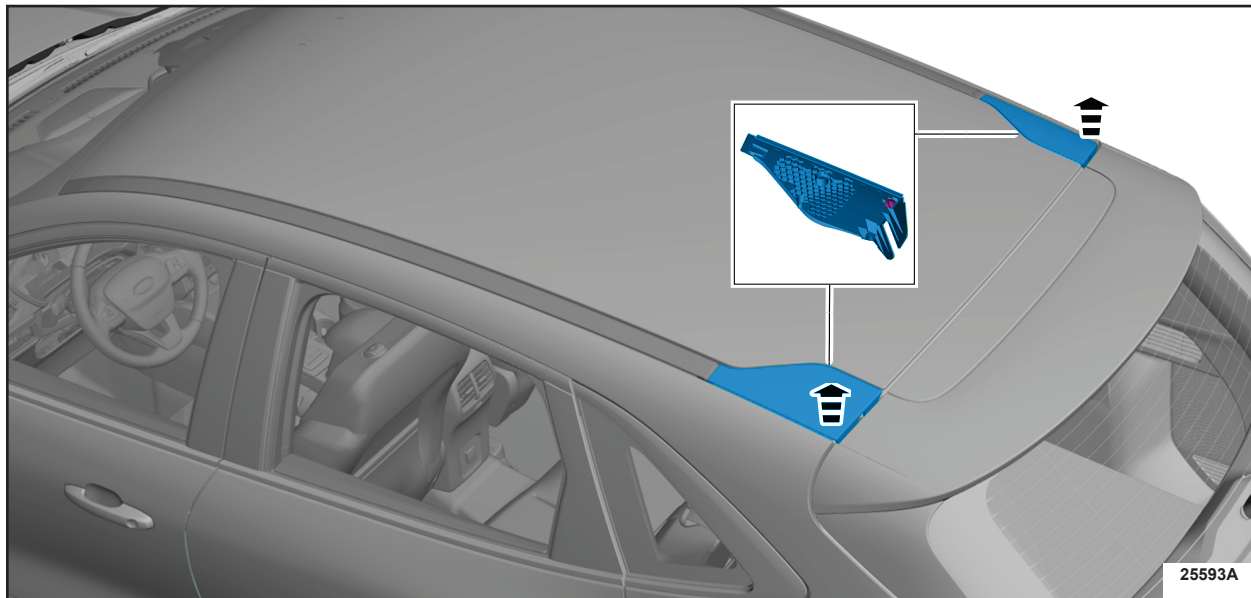

FIGURE 1
1. Inspect both liftgate hinge covers. Are either of the hinge cover(s) broken or missing? See Figure 1.
2. Using a plastic, non-marring trim tool, remove the liftgate hinge cover(s). See Figure 1.